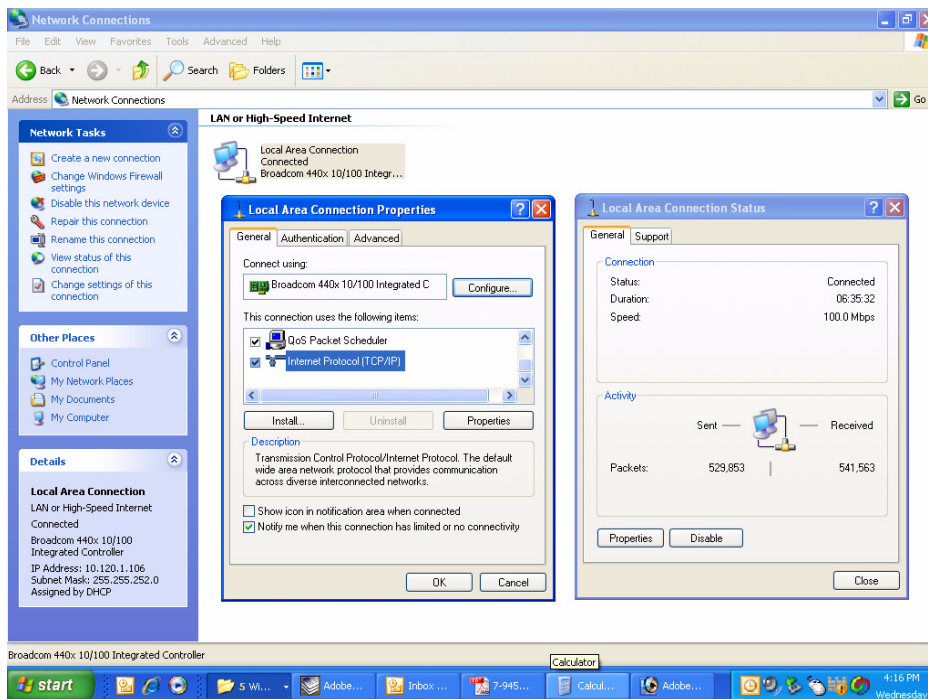

Figure B5: Make sure the "Internet Protocol (TCP/IP)" choice is highlighted. Then select "OK".
- 6) The “Local Area Connection Properties” box will open. Use the arrow buttons to scroll down the list until the “Internet Protocol (TCP/IP)” choice is highlighted as shown in **Figure B5**. Click the “Properties” tab at the right-center of the box.